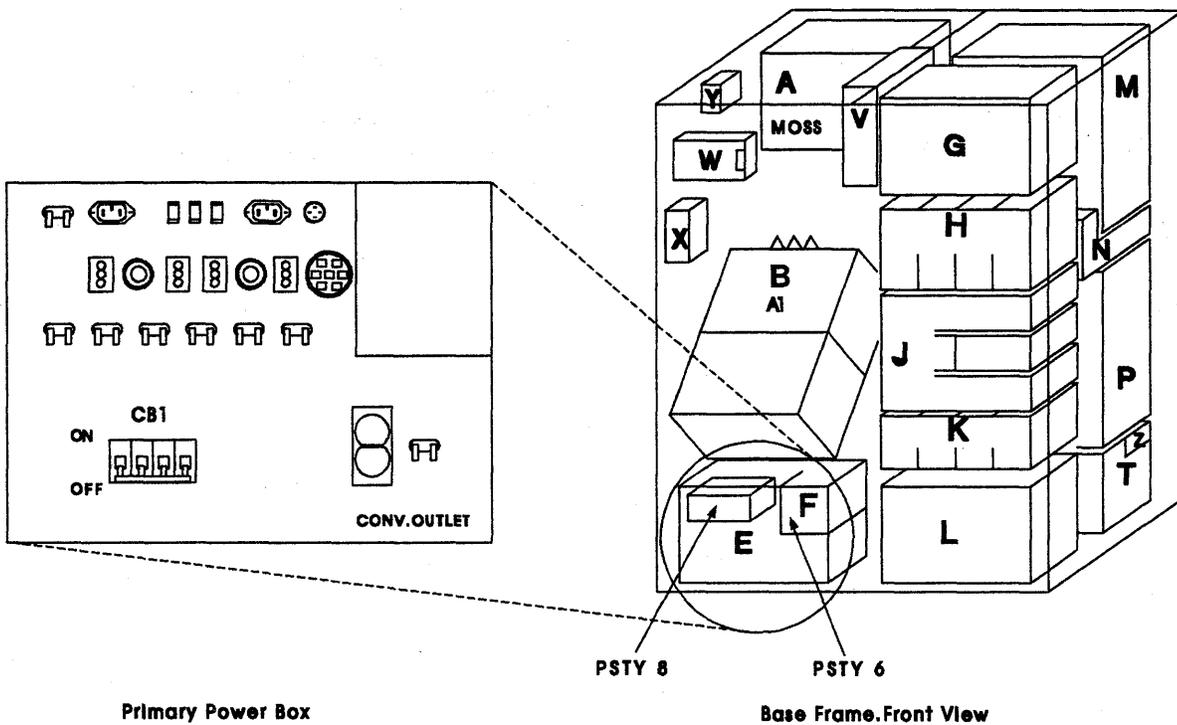

Figure 4-135. Primary Power Box
3. Switch the CB1 OFF. Refer to Figure 4-135.
10. Switch the **CB1** ON. Refer to Figure 4-135 on page 4-148.